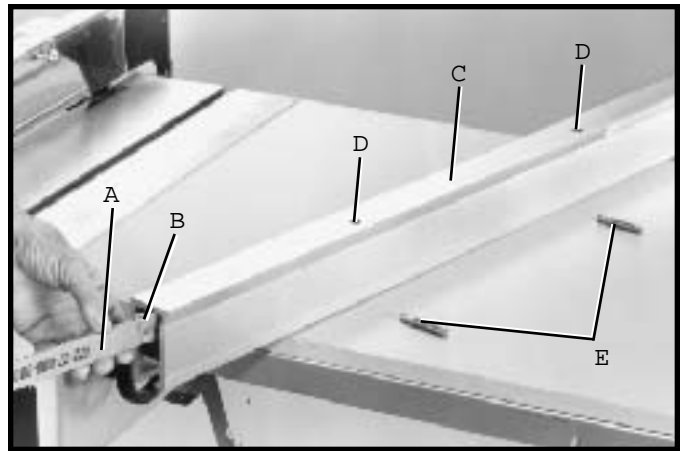

Fig. 56
1. Locate the cardboard template (A) Fig. 56, from the packing material of the Unifence.
2. Place two 3/8"-24 hex nuts, one of which is shown at (B) Fig. 56, in position on the two tabs of the template (A).
3. Insert template (A) Fig. 56, into the channel at the end of guide rail (C) as shown, until the hex nuts (B) line up with two holes (D) in guide rail.
4. Locate two double-threaded studs (E) Figs. 56 and 57, and thread the short finer threads as shown, into the hex nuts (B) Fig. 56, located on the template (A) inside the channel of the guide rail. Remove the cardboard template from the inside of the guide rail.